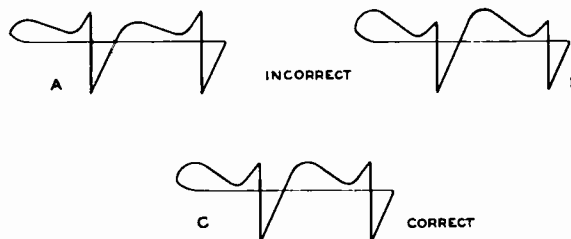

Figure 24—Horizontal Oscillator Wave Forms
B.—Connect the low capacity probe of an oscilloscope to terminal C of T114. Turn the horizontal hold control one-quarter turn from the clockwise position so that the picture is in sync. The pattern on the oscilloscope should be as shown in Figure 24. Adjust the waveform adjustment core of T114 until the two peaks are at the same height. During this adjustment, the picture must be kept in sync by readjusting the hold control if necessary.